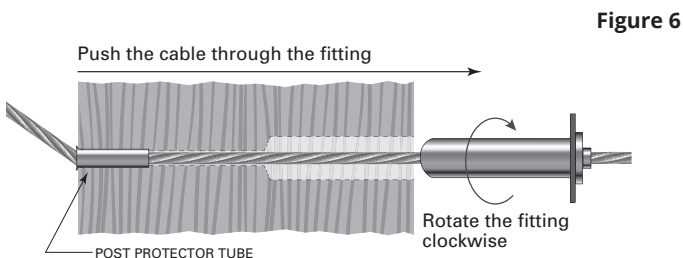

Figure 6
2. Rotate the Pull-Lock® fitting clockwise as you push it onto the cable. If the cable begins to “unravel,” you are rotating the fitting in the wrong direction. (Figure 6)